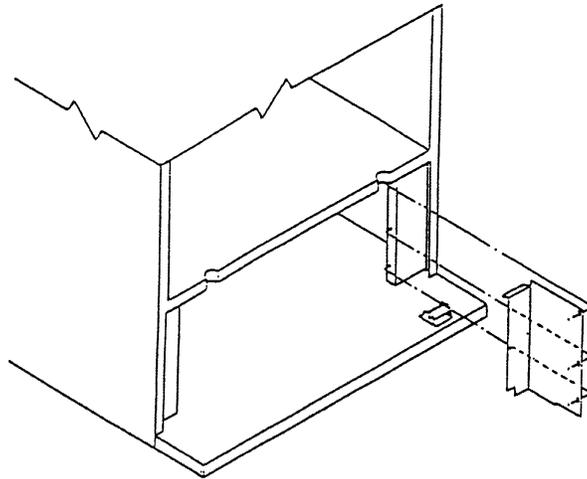

Figure 3
1. On Williston built venders 0001-6000 to 1083-6030, install condenser baffle (491,040,05x.x3). (See figure 3, page 7.)
2. On Ranson built venders with new style (4" wide) base boxes, install new right hand baffle (805,800,66x.x1) & secure. (See fig 3, page 7).